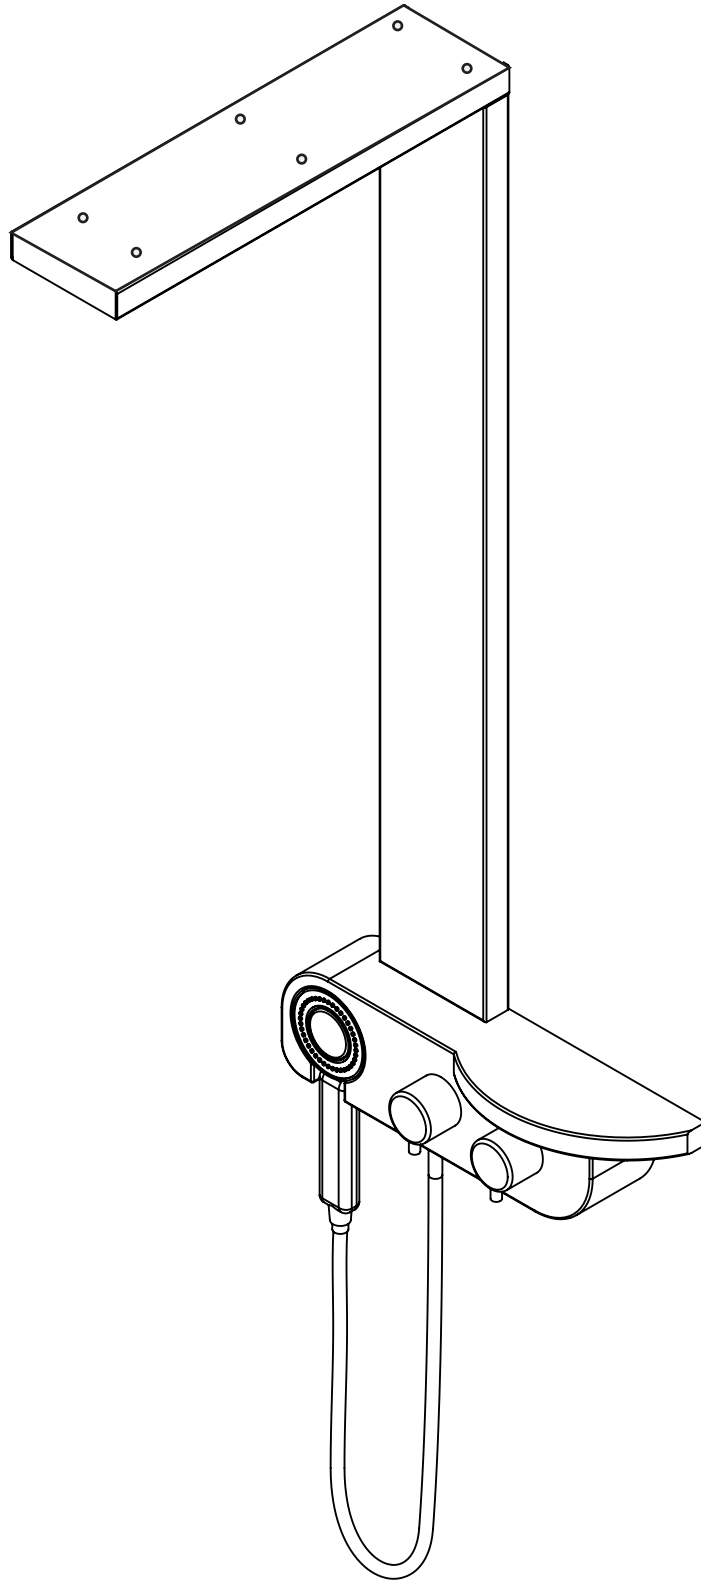

Fig 7
7. Use an assistant to hold the **Shower Panel Body (#01)**, attach the flexible supply lines in the rear of the unit to the copper stub-outs using thread seal tape. Attach cold water (blue) and hot water (red). Do not overtighten. Hang the unit onto the installed **Support Brackets (#02)**. Turn on the water supply and test the unit for leaks and functionality. **(Fig 7)**